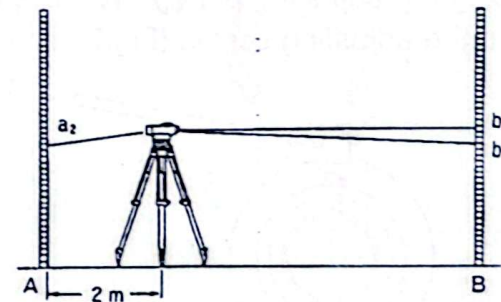
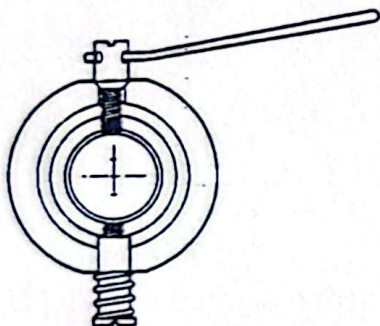

Fig.7.6
Fig.7.8
- 2) Set the instrument at a point 2 m from point A. Take readings a_2 and b_2 . (Fig.7.6)
- 4) Use the adjusting pin to eliminate the difference between b_2' and b_2 . (See "11. STANDARD EQUIPMENT".) In the example shown in Fig.7.6 b_2 is larger than b_2' . The horizontal line needs to be lowered. To lower the horizontal line, carefully loosen the adjusting screw by a small amount using the adjusting pin ⑮ . To raise the horizontal line, tighten the adjusting screw. (Fig.7.8)